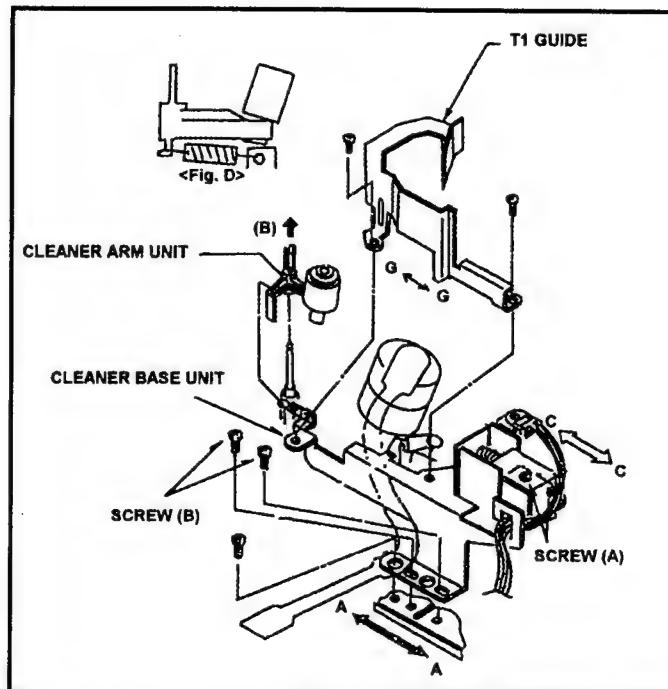

Fig. 4-15-2 Cleaner Solenoid Position Adjustment
3. If not, loosen the 2 screws (A) and adjust the position of Cleaner Solenoid Unit by moving arrow direction ( $C \leftrightarrow C$ ) using the Eccentric drive so that the clearance (D) is within specification. And tighten the 2 screws. (Refer to Figure 4-15-2.)